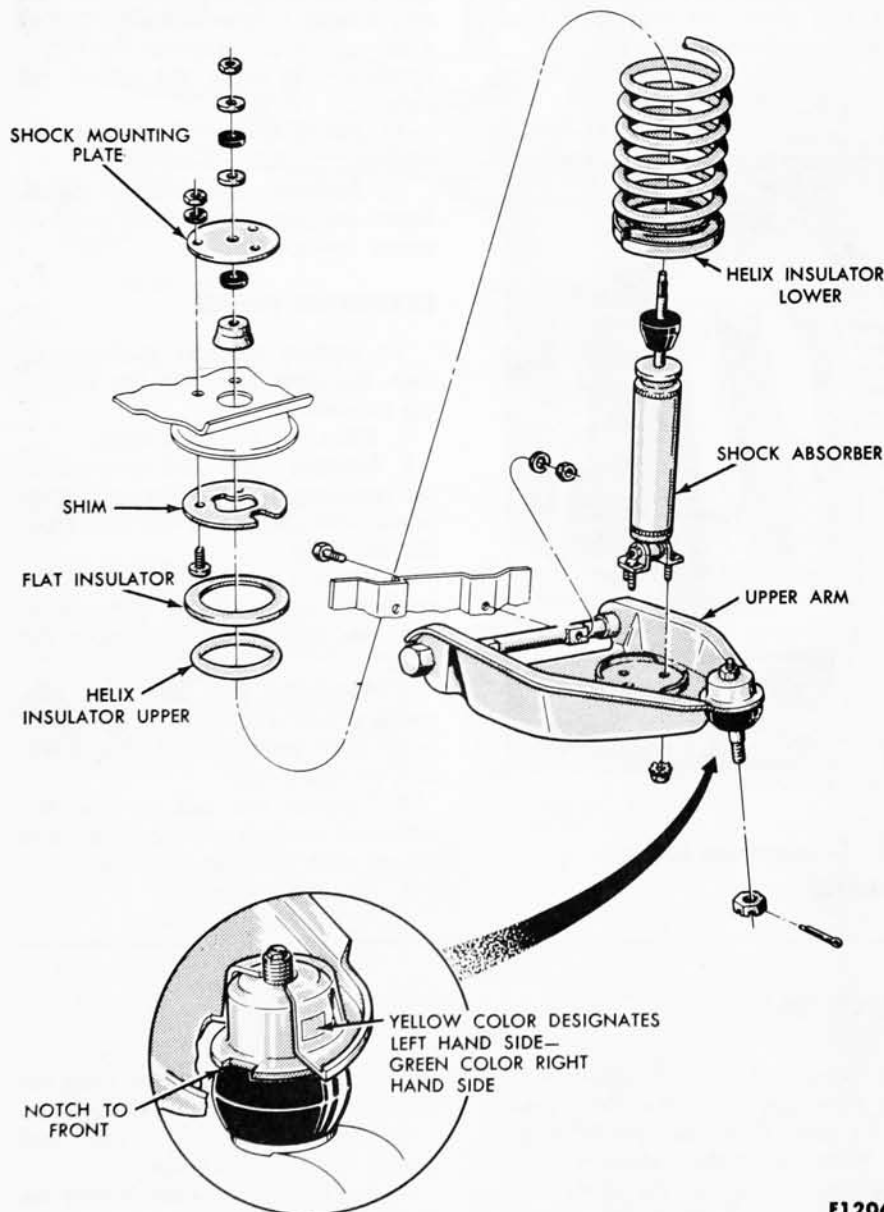

FIG. 4—Upper Arm, Shock Absorber and Spring Connections
2. Disconnect the shock absorber lower mounting bracket from the upper arm by removing the three retaining nuts and washers (Fig. 4).